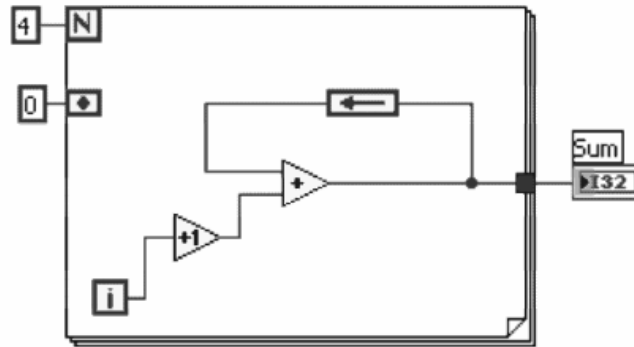

Figure 4.19 Initializing a feedback node.
- Initializing a feedback node as shown in Figure 4.19 resets the initial value that the feedback node passes for the first time the loop executes when the VI runs.